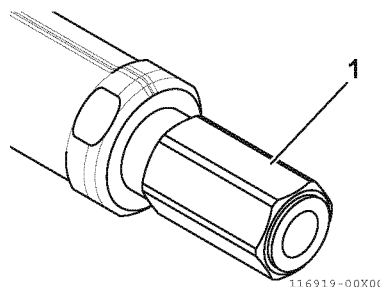

Fig.50-36
- 3 - In the same way as the hollow screw, use a tool and slightly turn th pressure limiter (1, Fig.50-36) counterclockwise to loosen it, then clean the fastening part again carefully to remove any paint chips or other foreign matter generated when the bolts were loosened. Be sure to prevent foreign matter from entering matter do not enter the pressure limiter opening. Then remove the pressure limiter from the rail. In order to prevent foreign matter from entering the rail body, install the new pressure limiter immediately after removing the old pressure limiter.